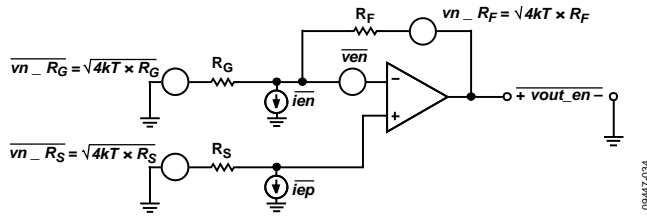

Figure 50. Noise Sources in Typical Connection
Figure 50 illustrates the primary noise contributors for the typical gain configurations. The total rms output noise is the root-mean-square of all the contributions.
*RS* is the source resistance, as shown in Figure 50.
*RF* and *RG* are the feedback network resistances, as shown in Figure 50.